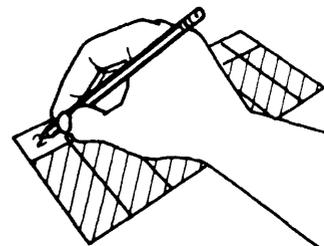

Figure 14
- ❑ 2. Fill out two cable labels for each length of voice terminal cable you have installed. Write the intercom number of the voice terminal served by the cable and the room number or some other indication of the voice terminal location (for example, 2: Room 101). See Figure 14.